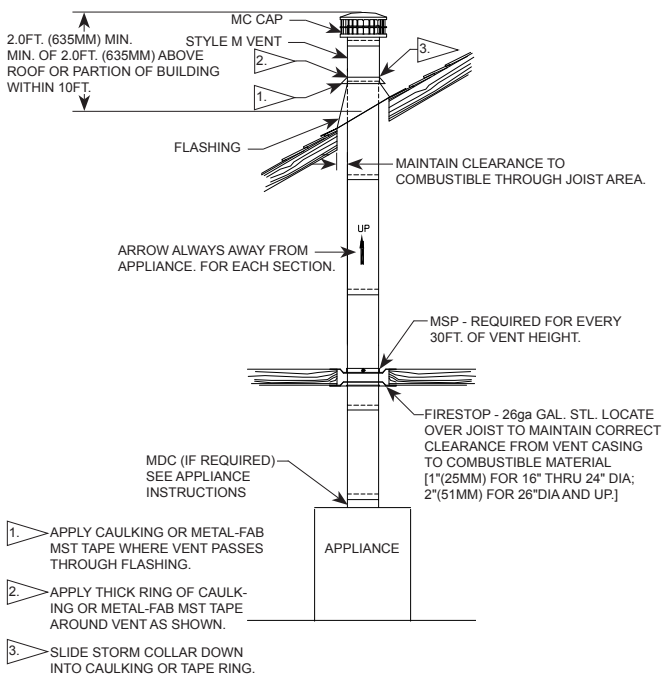

FIG. 2
**NOTE:** Some appliances have the draft hood built into the appliance. For these, the gas vent attaches directly to the appliance outlet (See **FIG. 2**). If needed, a draft hood connector (MDC) is attached to the appliance outlet.